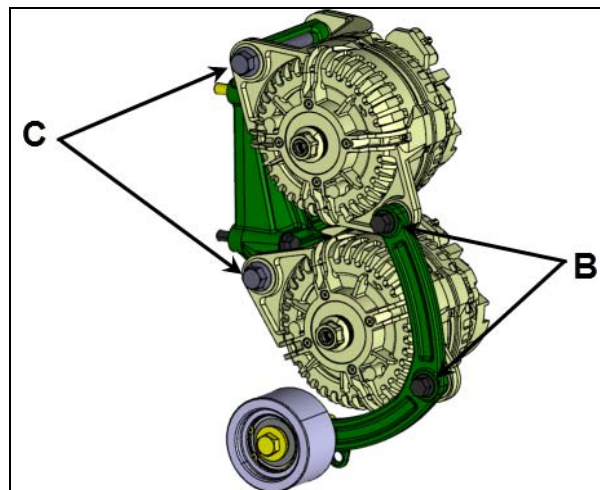

FIGURE 4
7. Install new alternators. Fix lower and upper alternators loosely to alternator supports using bolts **C**. **Apply anti-seize compound inside the alternator mounting ears and inside the sleeves found on the support attached to the engine (see location C on FIGURE 4).** Also, mount arched support loosely onto alternators using bolts **B** (FIGURE 4). If applicable, install stone guard.